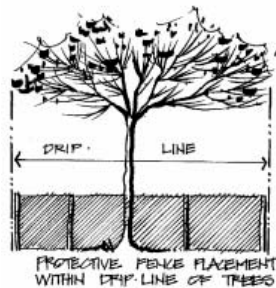

FIGURE 16-20
- a. Protective fence or barricade shall be placed around the drip line of trees to prevent storage of machinery, equipment or parking of cars which can cause soil compaction and mechanical damage. Placement should be at drip line of tree. **Figure 16-20.**